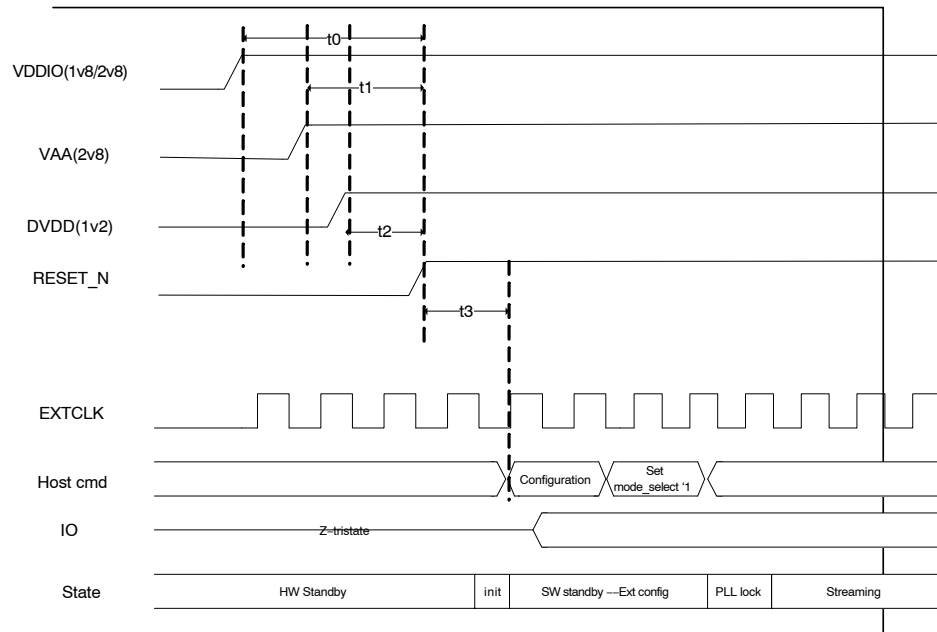

Figure 10. Initial Power-Up Sequence
3. Wait for current to be applied on t0, t1, t2, controlled by external supply slew rate (See Figure 10).